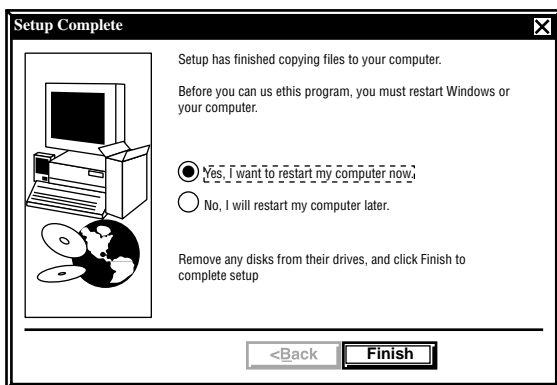

Figure 5-5. Installation finished.
- To complete the setup, when the screen shown in **Figure 5-5** appears, choose **Yes, I want to restart my computer now**, and click **Finish**.